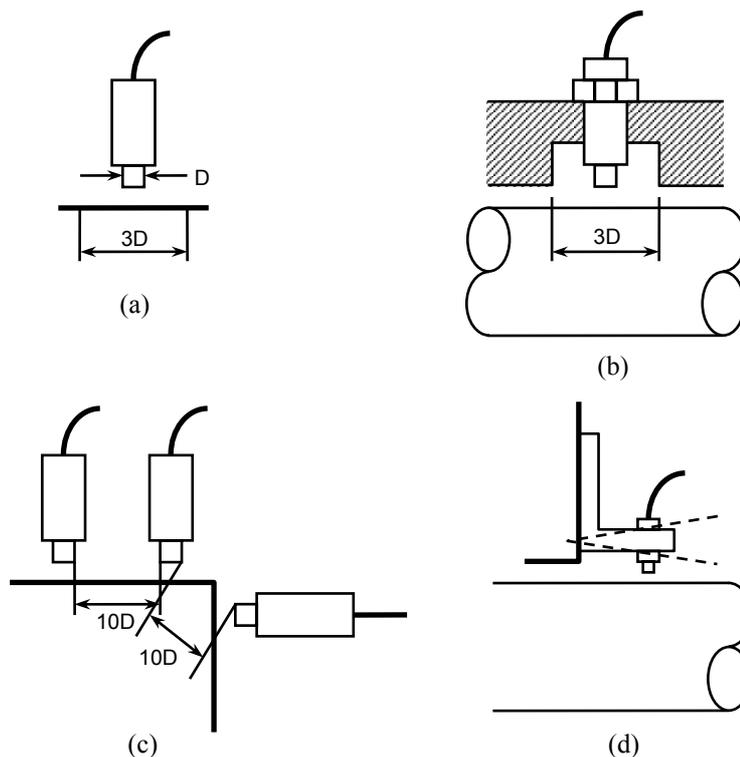

Fig. 4.1
1. The target surface must be more than 3 times the sensor tip diameter (Fig. 4.1(a)).
2. There must not be any conductive materials within a range of 3 times the sensor tip diameter (Fig. 4.1(b)).
3. To avoid mutual interference between sensors, a minimum distance corresponding to 10 times the sensor tip diameter must be maintained between sensors (Fig. 4.1(c)).
4. Use a sufficiently rigid installation method to prevent vibration of the sensor itself (Fig. 4.1(d)).